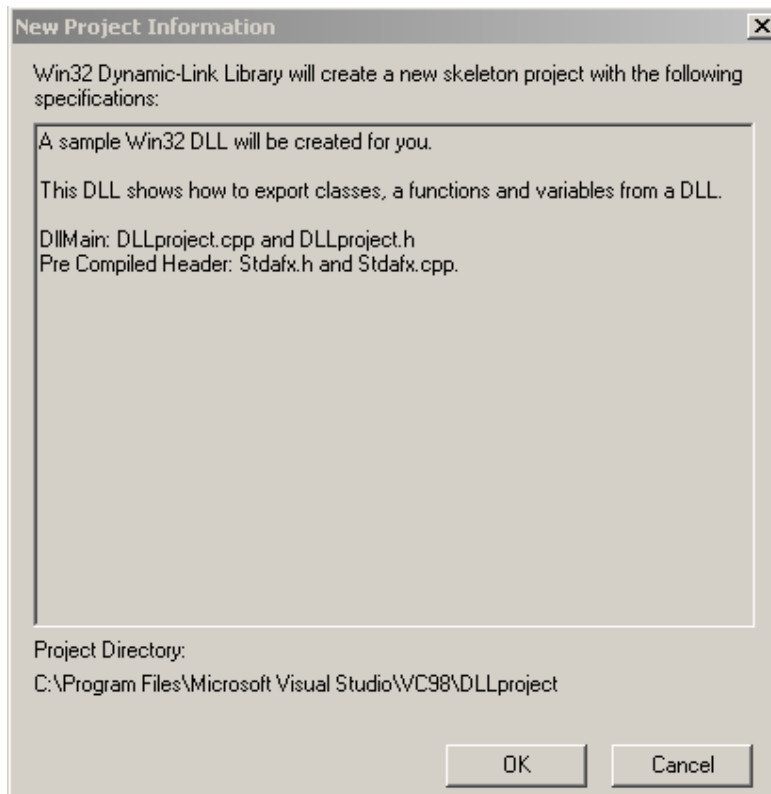

Figure 3: Confirm the project information
4. Click on "Finish" to get the window shown in figure 3. Click on "OK".